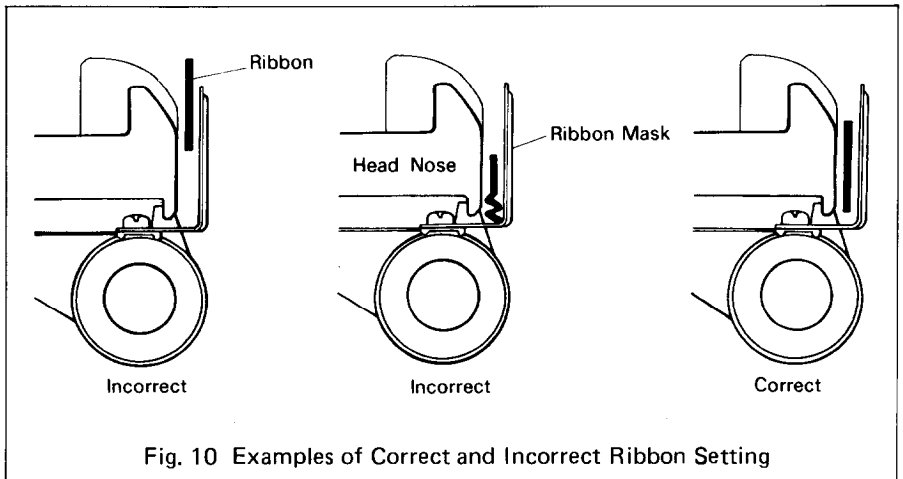

Fig. 10 Examples of Correct and Incorrect Ribbon Setting
- NOTES: 1. Incorrect setting of the ribbon may cause it to come off. (See Fig. 10.)